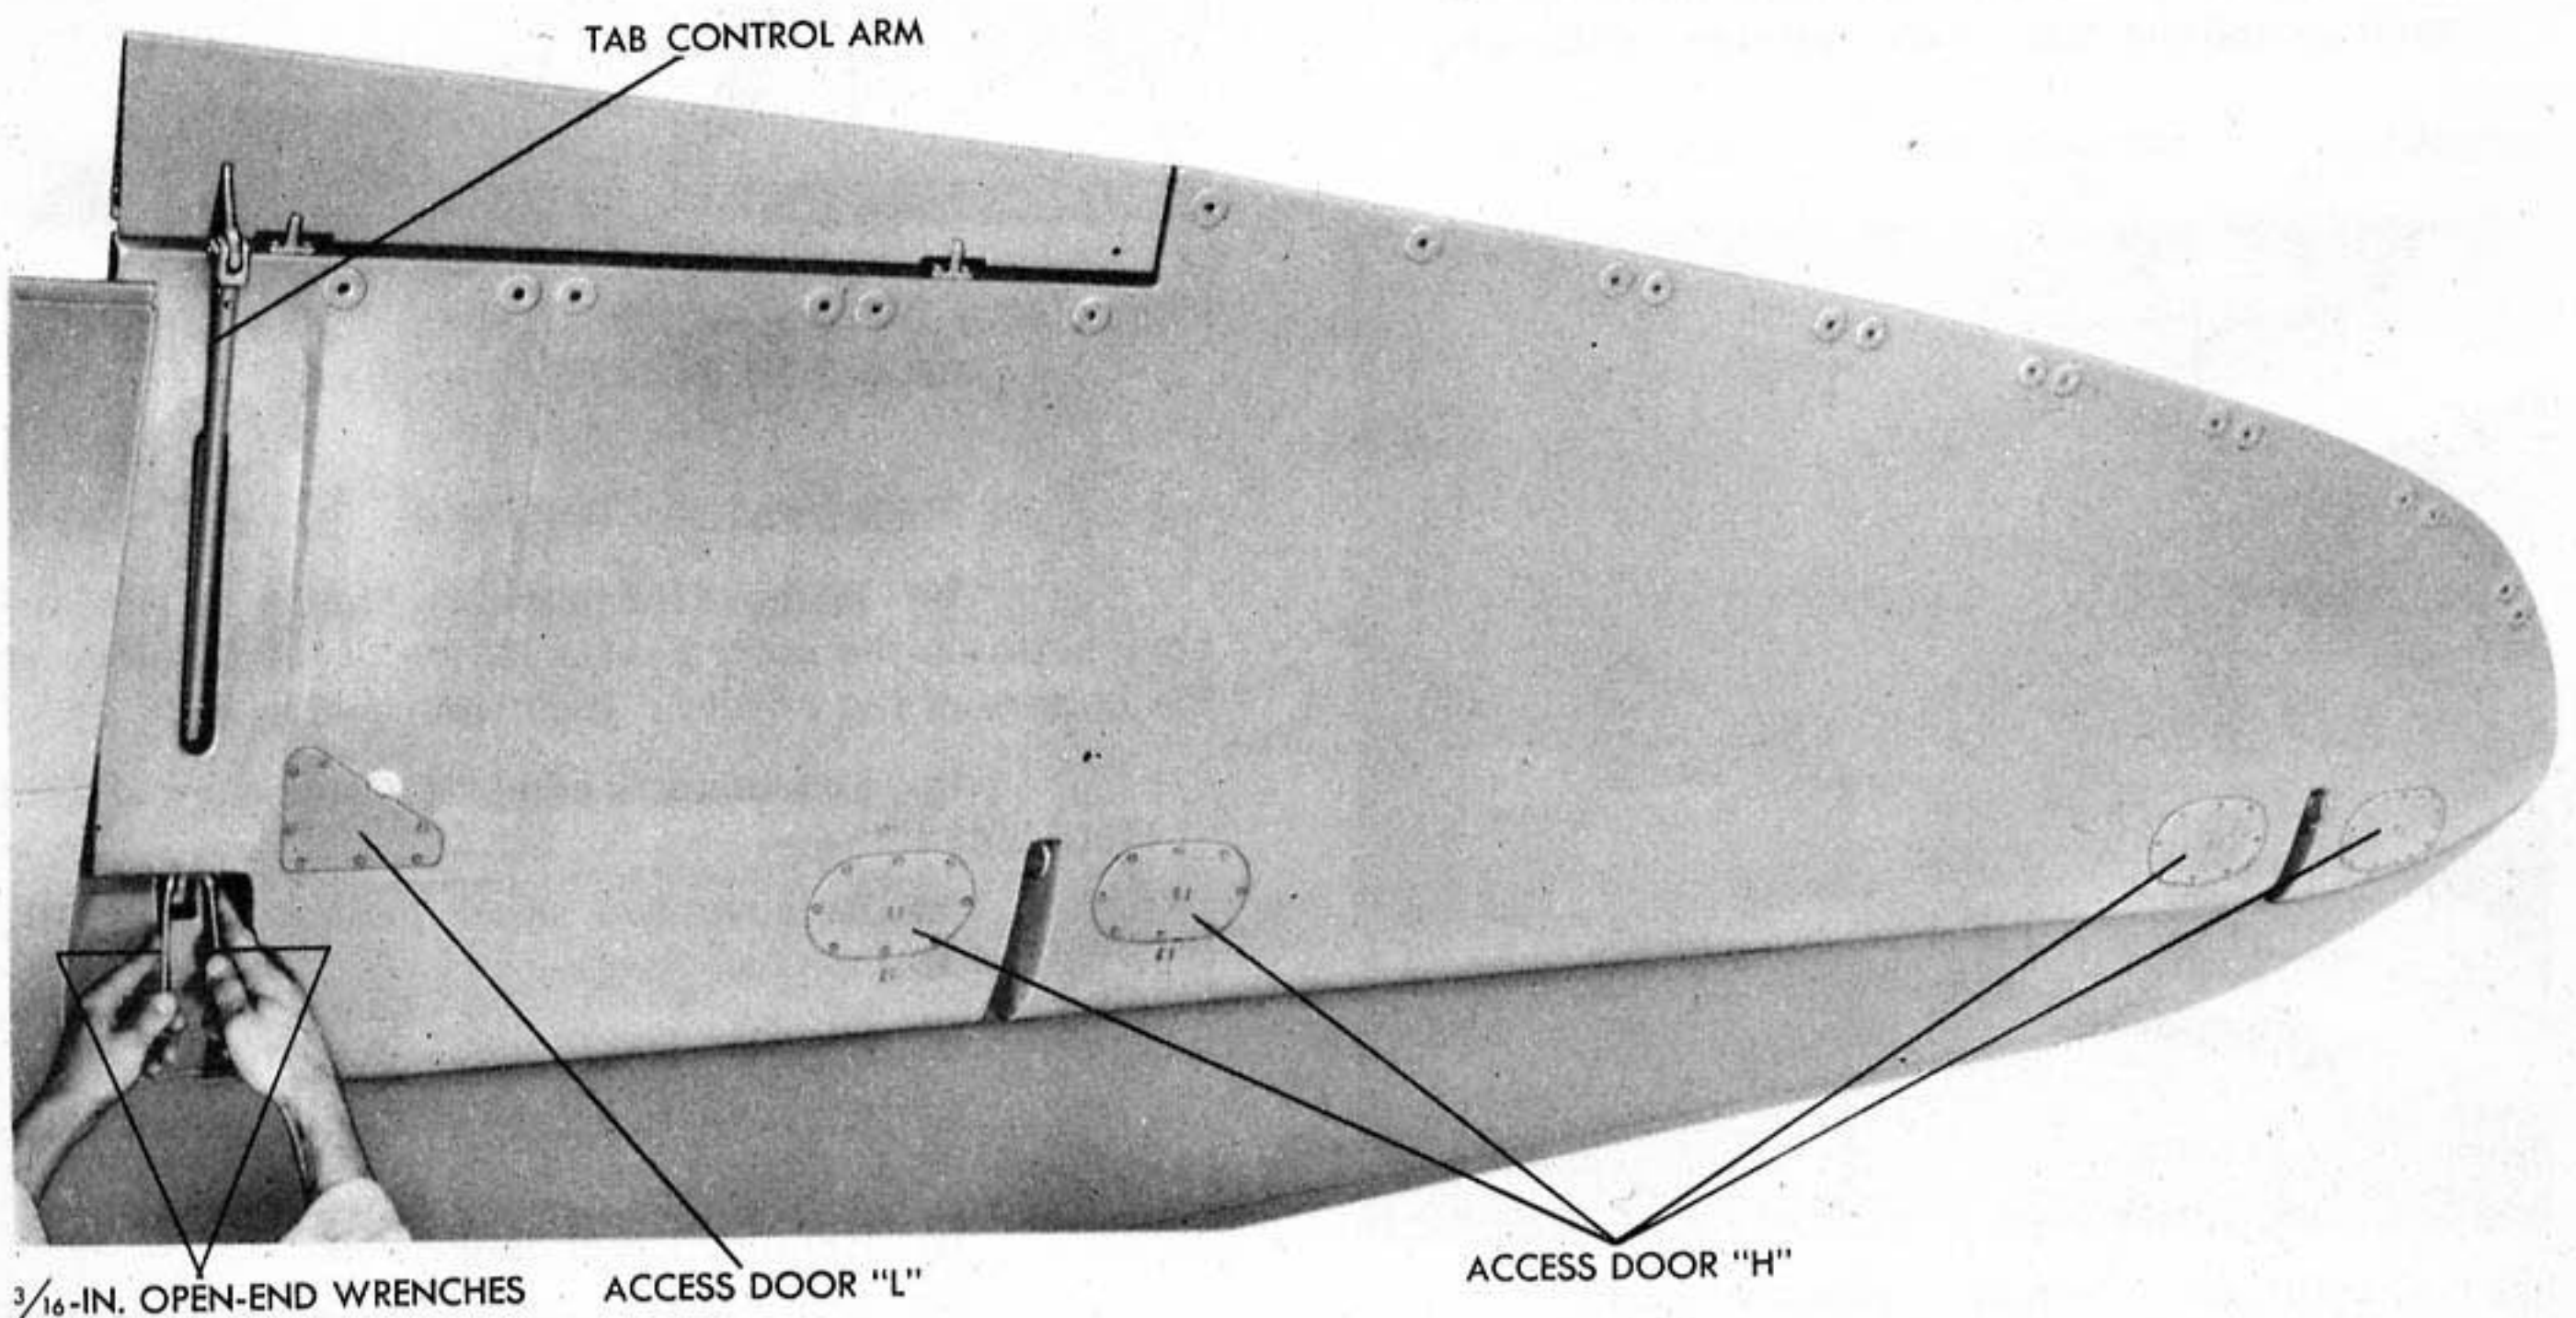

Figure 39 - REMOVING ELEVATOR
(5) INSTALLATION OF ELEVATOR. (See figure 39.)